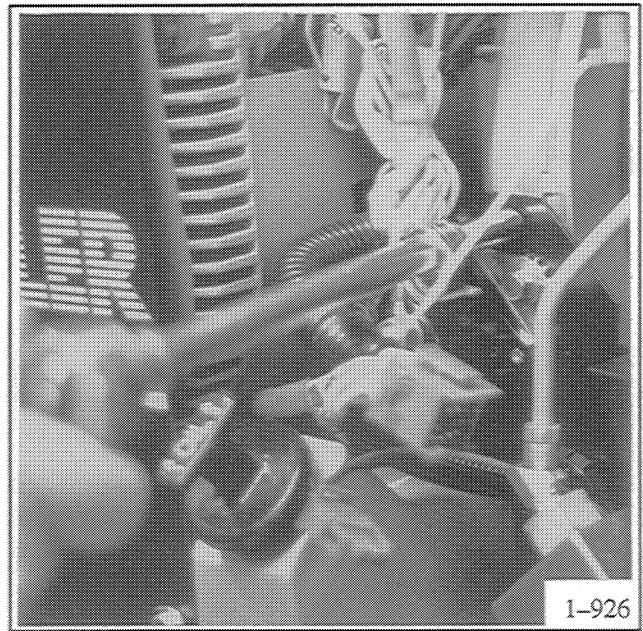

Figure 8-21. Removing Panel
25. Remove two screws located above starter solenoid using 5/16 in. ratchet to free panel. See Figure 8-21.